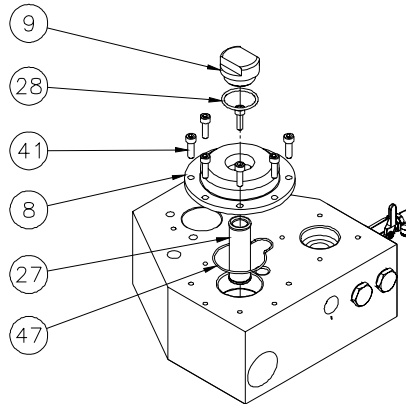

Figure 4-2. Filter Section
1. Reassemble the filter section, referring to Figure 4-2.
- a. Install the O-Ring (28) onto the Cap (9).
- b. Clean the Filter Screen (27).
- c. Apply Superlube (57) to the O-Ring (47) to help keep it in the Filter Cap (8) O-Ring groove.
- d. Tighten the M6 x 20 SHCS (41) to 12 N\*m (106 in\*lbs).